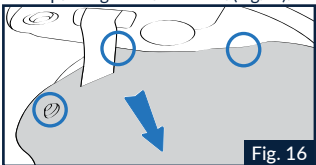

Fig. 16
1.2 Pull the front of the left cheek pad towards the inside of the helmet to release the three buttons on its back (Fig. 16).
Insert the chin strap into the cavity in the cheek padding and press near the rear snap fasteners located on the back to fasten it to the relevant seat in the polystyrene cheek pad (Fig.16).